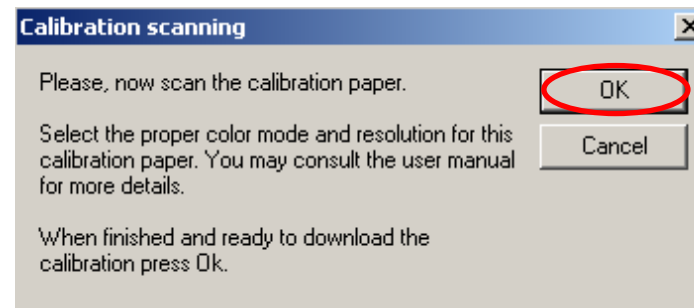

Fig 5
6. After the memory has been formatted the **Calibration scanning** dialog window will appear (Fig 5). Please **disconnect** the DocuPen from the USB cable and position it on top of the **Roller Calibration** sheet. Please scan the sheet in **high resolution (200 dpi)**.
- The DocuPen will now save the Calibration image into memory. After the image is saved, please attach the DocuPen to the USB cable. Now press the **Power ON** button on the DocuPen and click the **OK** button within the **Calibration scanning** dialog window (Fig 5).